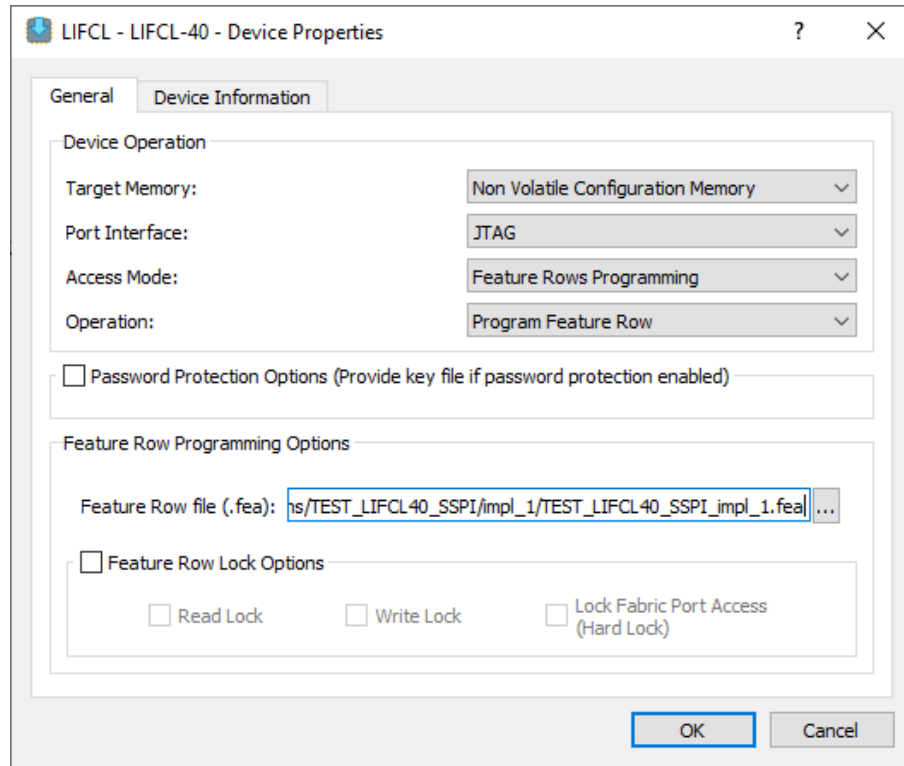

Figure 2.5. Device Properties
3. Using the Lattice Radiant programmer, user can now program the feature row as shown in Figure 2.5. The updated *.fea* file should now reflect within the feature row once programming operation is successful. User can double-check if the feature row has been updated appropriately using the *Read Feature Row* operation. Click **OK**.